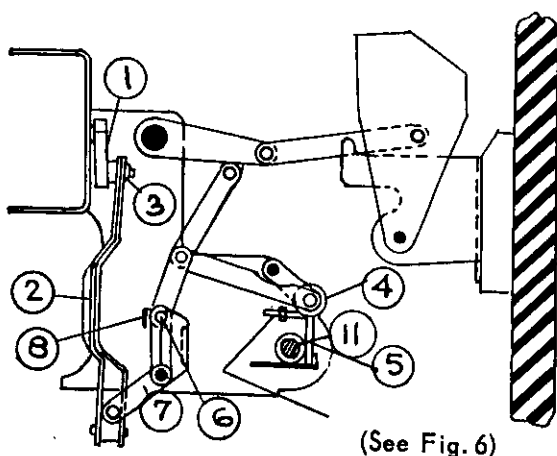

Figure 5(a)
The breaker mechanism is attached to the spring closing mechanism by means of a closing crank (1) connected to an eccentric link (2) which pivots on a uni-ball (3). See figure 5(a)
The breaker is closed by rotating the closing crank clockwise through approximately 180°. As the crank starts to move the linkage is prevented from collapsing by the latch bearing (4) resting against the ground steel cam (5). As the crank continues to rotate the pin (6) is pushed by the closing casting (7) up to the stops (8) located on the mechanism side plates. See Figure 5 (a).
When the breaker is open and the spring charged ready for closing, the latch bearing will have a clearance of 1/64" to 1/16" above the ground steel cam. Figure 5 (b).